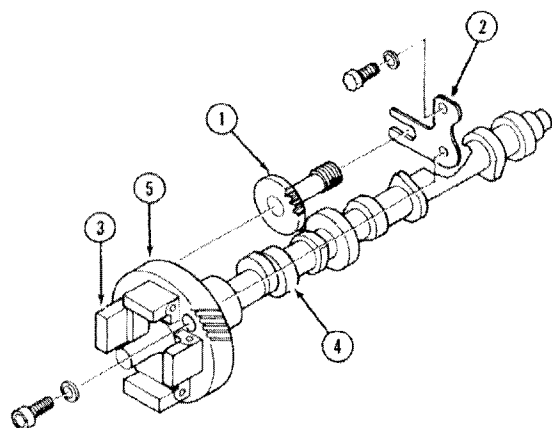

Figure 82
3. Remove the camshaft assembly and tachometer drive shaft and plate assembly as a unit, Figure 82.